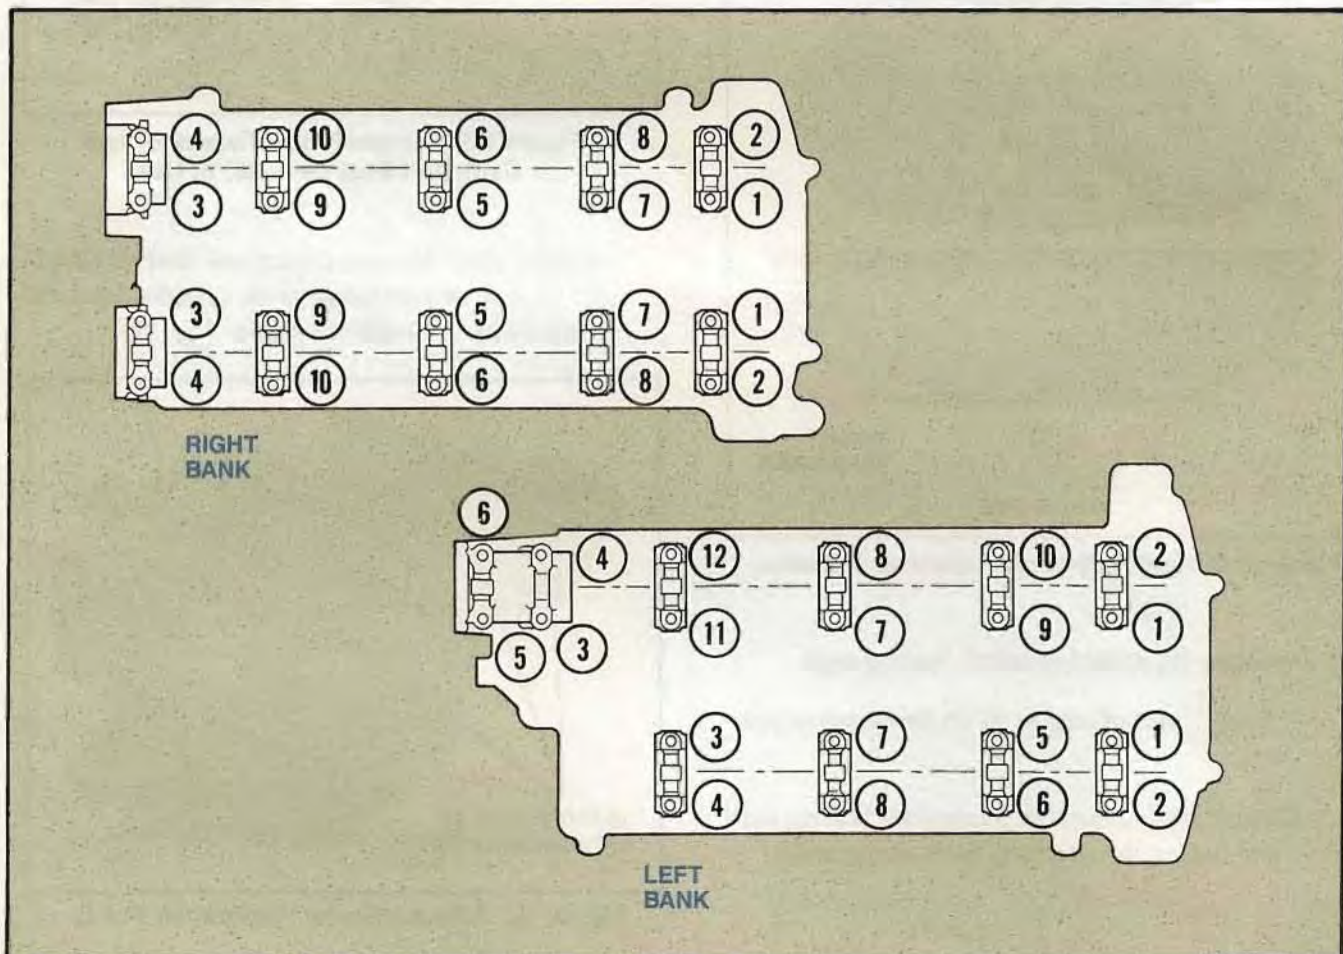

Figure 118. Camshaft Bearing Torque Sequence
- Tighten the bearing cap attaching bolts in two steps in the sequence indicated. On the first step, tighten the bolts to 11 N·m (8 lb-ft). On the second step tighten the bolts to a final torque specification of 16-22 N·m (12-16 lb-ft) (Fig. 118).